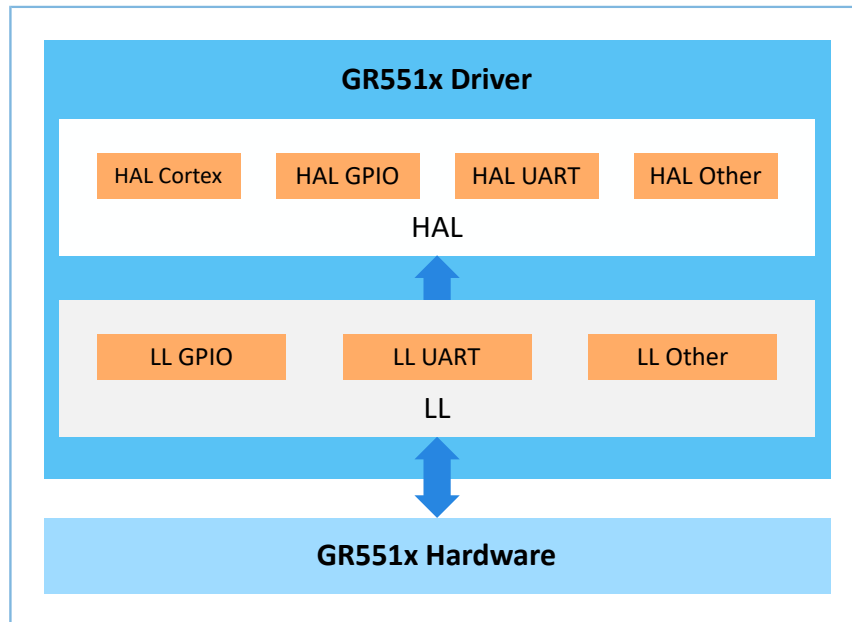

Figure 1-1 GR551x driver architecture
The GR551x peripheral drivers comprise Hardware Abstraction Layer (HAL) drivers and Low Layer (LL) drivers. The driver architecture is shown in Figure 1-1.